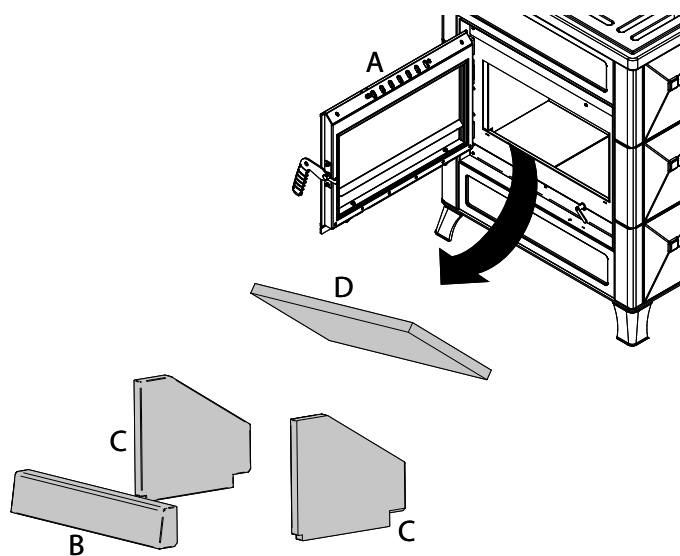

Fig. 9.2.1
- Open the door A, remove in sequence the cements: B (base wall), C (side walls) D (upper top) (Fig. 9.2.1)